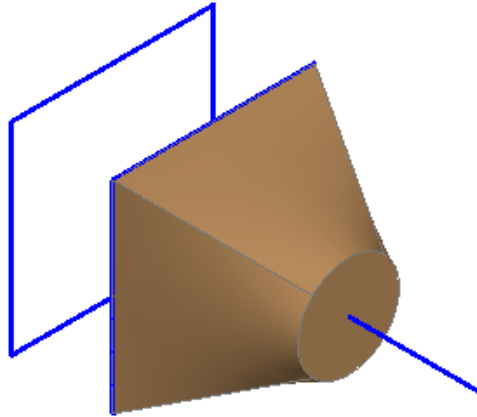

Figure Step 21
Step 21 Using the LOFT command, create a loft selecting the square and circle as the cross sections. (Figure Step 21)